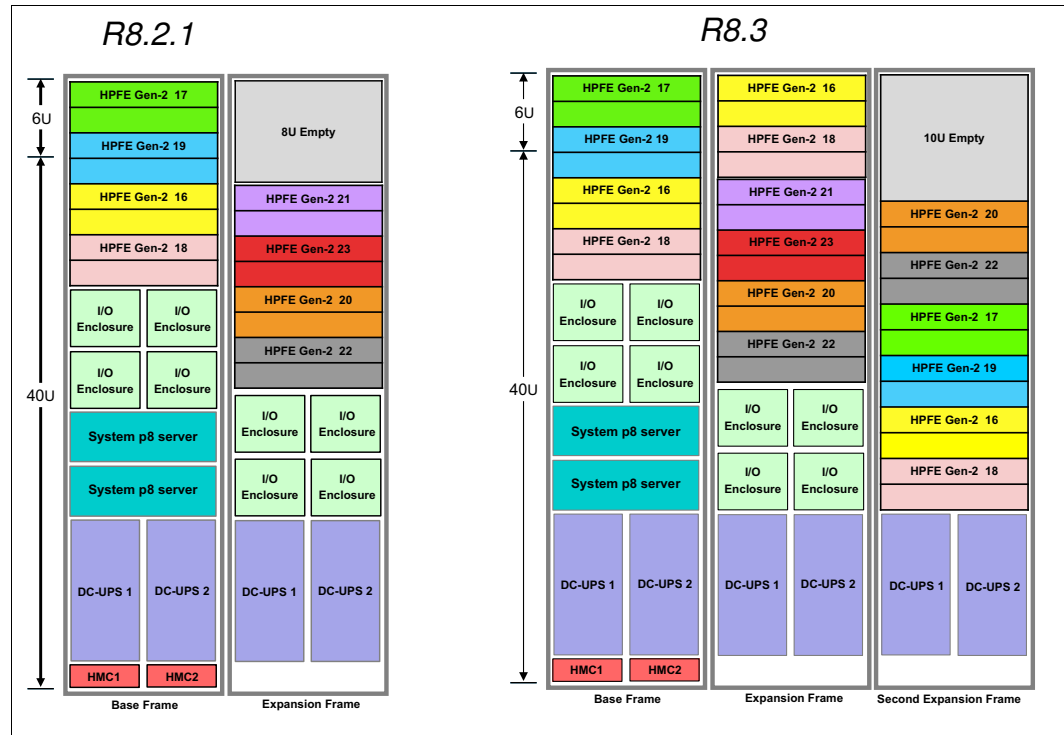

Figure 2-11 DS8888F MTM 533x Models 988 and 88E
- Release 8.3 enables the support for additional Flash capacity, up to eight pairs of HPFE Gen2 for DS8888F (Analytic Class) MTM 533x. This configuration includes the second expansion frame with six pairs of HPFE Gen2. The maximum configuration goes from 384 to 768 flash drives as shown in Figure 2-11.